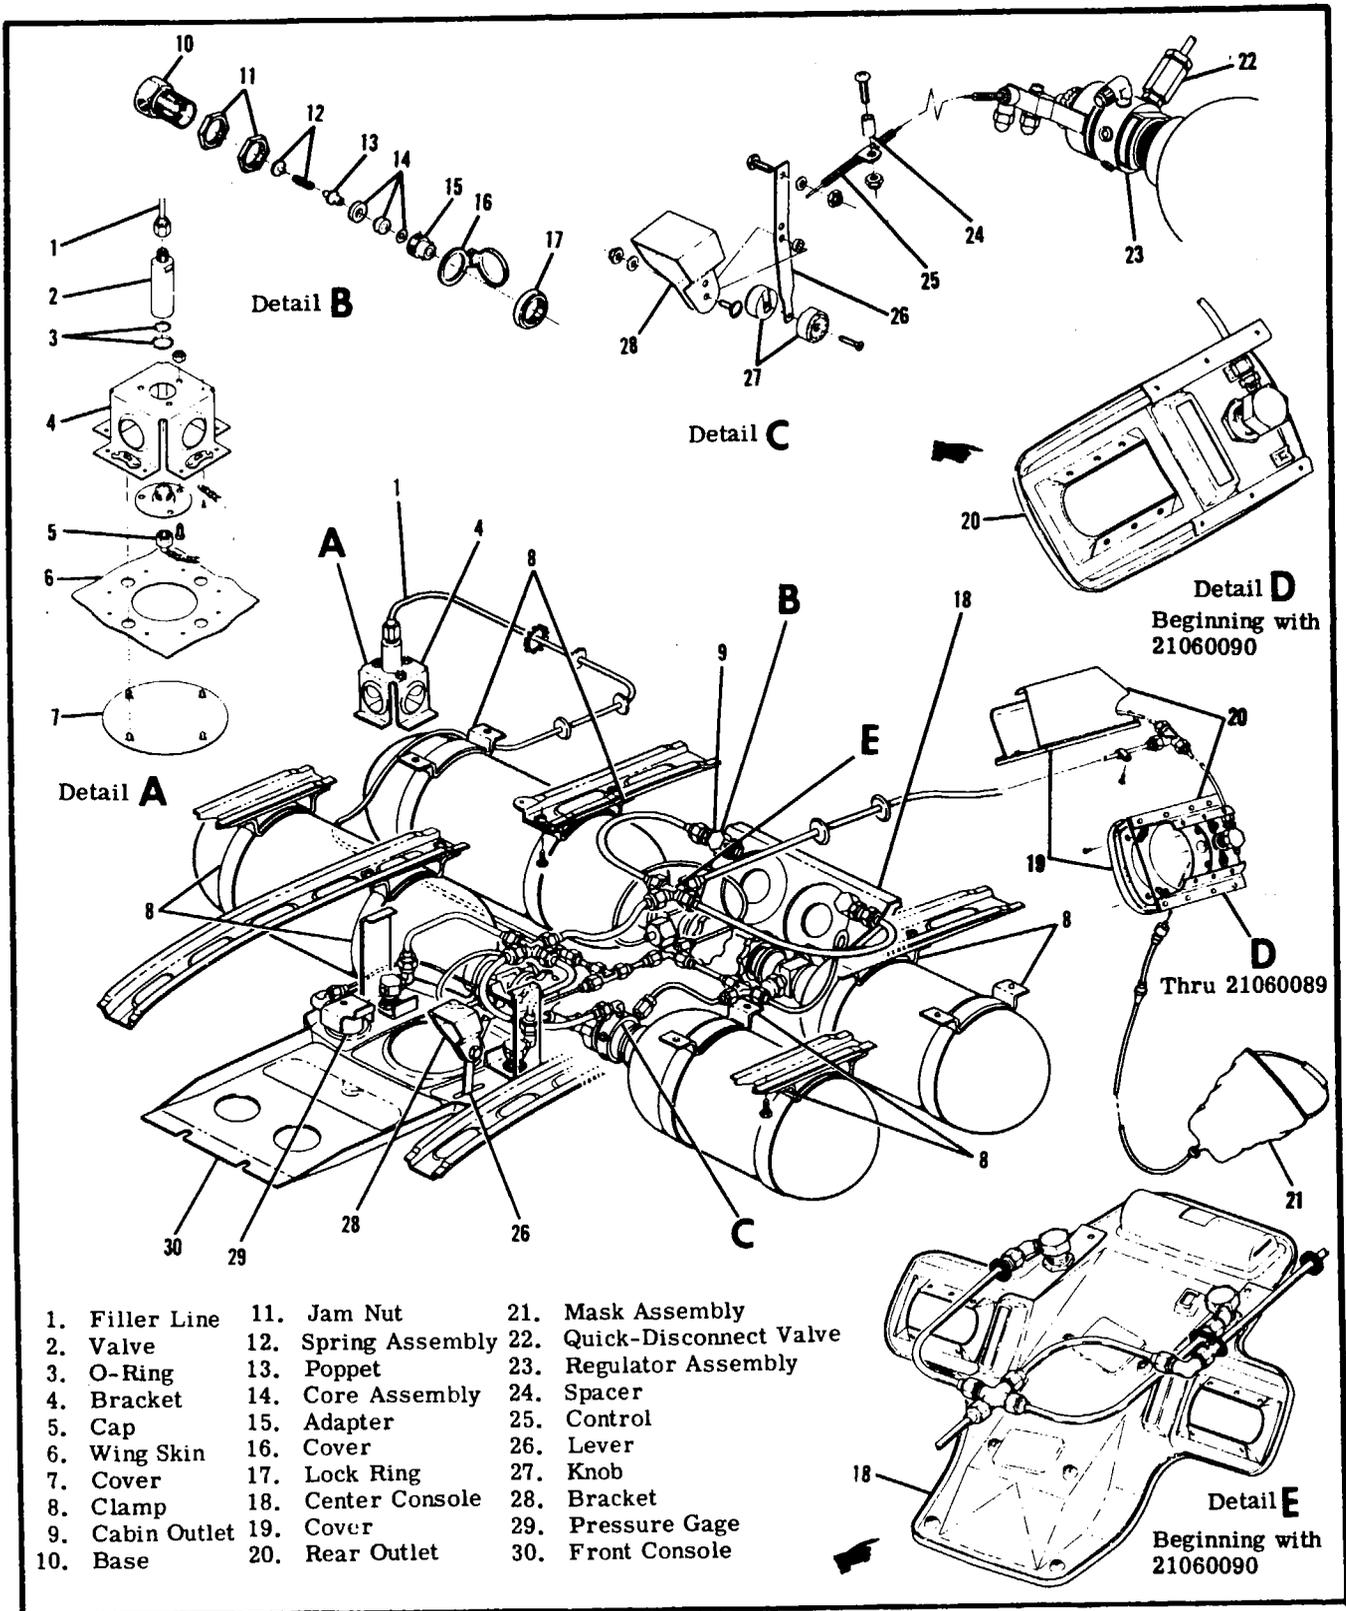

Figure 15-9. Oxygen System
15-36. REPLACEMENT OF COMPONENTS. Removal, disassembly, assembly and installation of system components may be accomplished while using figure 15-9 as a guide.
Oxygen cylinder and regulator assemblies may not always be installed in the field exactly as illustrated in figure 15-9, which
- c. A cabin outlet is illustrated in figure 15-9. Repair kit, (part no. C166006-0108), available from the Cessna Service Parts Center, may be used for replacement of components of the outlet assembly.